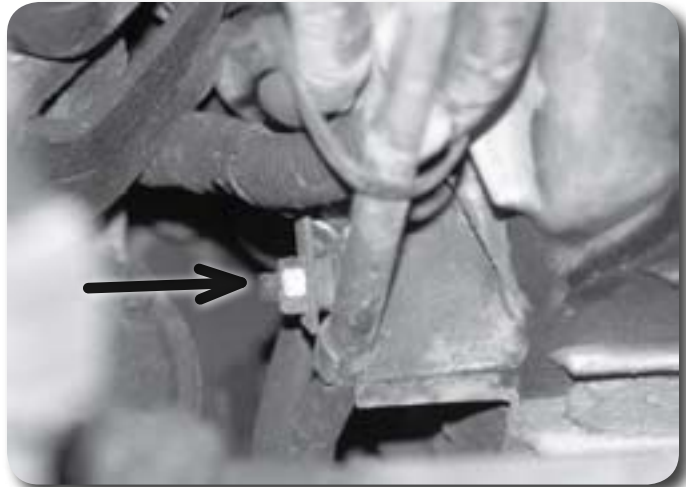

Figure 19
23. Remove the bolt/clip mounting the oil cooler lines to the passenger's side of the engine oil pan Figure 19. Remove the lines from the pan.